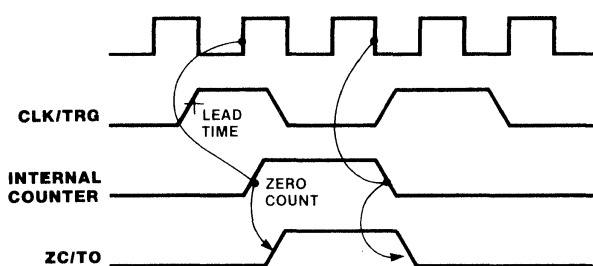

Figure 12. Counter Mode Timing
**Counter Operation.** In the counter mode, the CLK/TRG pulse input decrements the downcounter. The trigger is asynchronous, but the count is synchronized with CLK. For the decrement to occur on the next rising edge of CLK, the trigger edge must precede CLK by a minimum lead time as shown in Figure 12. If the lead time is less than specified, the count is delayed by one clock cycle. The trigger pulse must have a minimum width, and the trigger period must be at least twice the clock period. If the trigger repetition rate is faster than  $1/3$  the clock frequency, then TsCTR(Cs), AC Characteristics Specification 26, must be met.